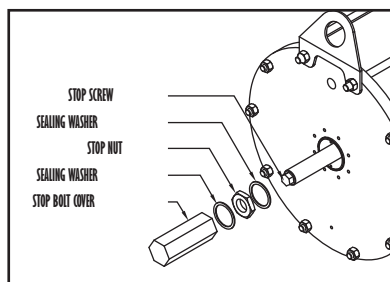

figure 1
1.1 Pneumatic/Hydraulic Cylinder (See figure 1)